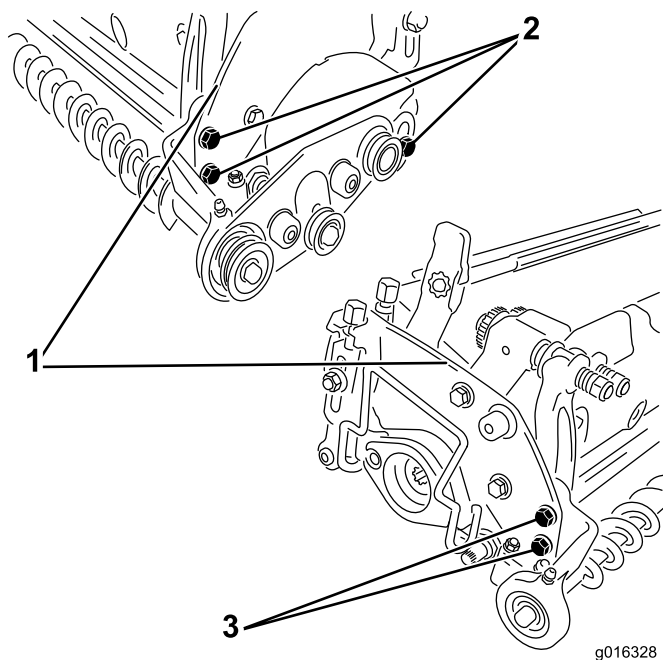

Figure 10
- A. Loosen the bolts securing the brush supports to the cutting unit side plates; see Figure 10.